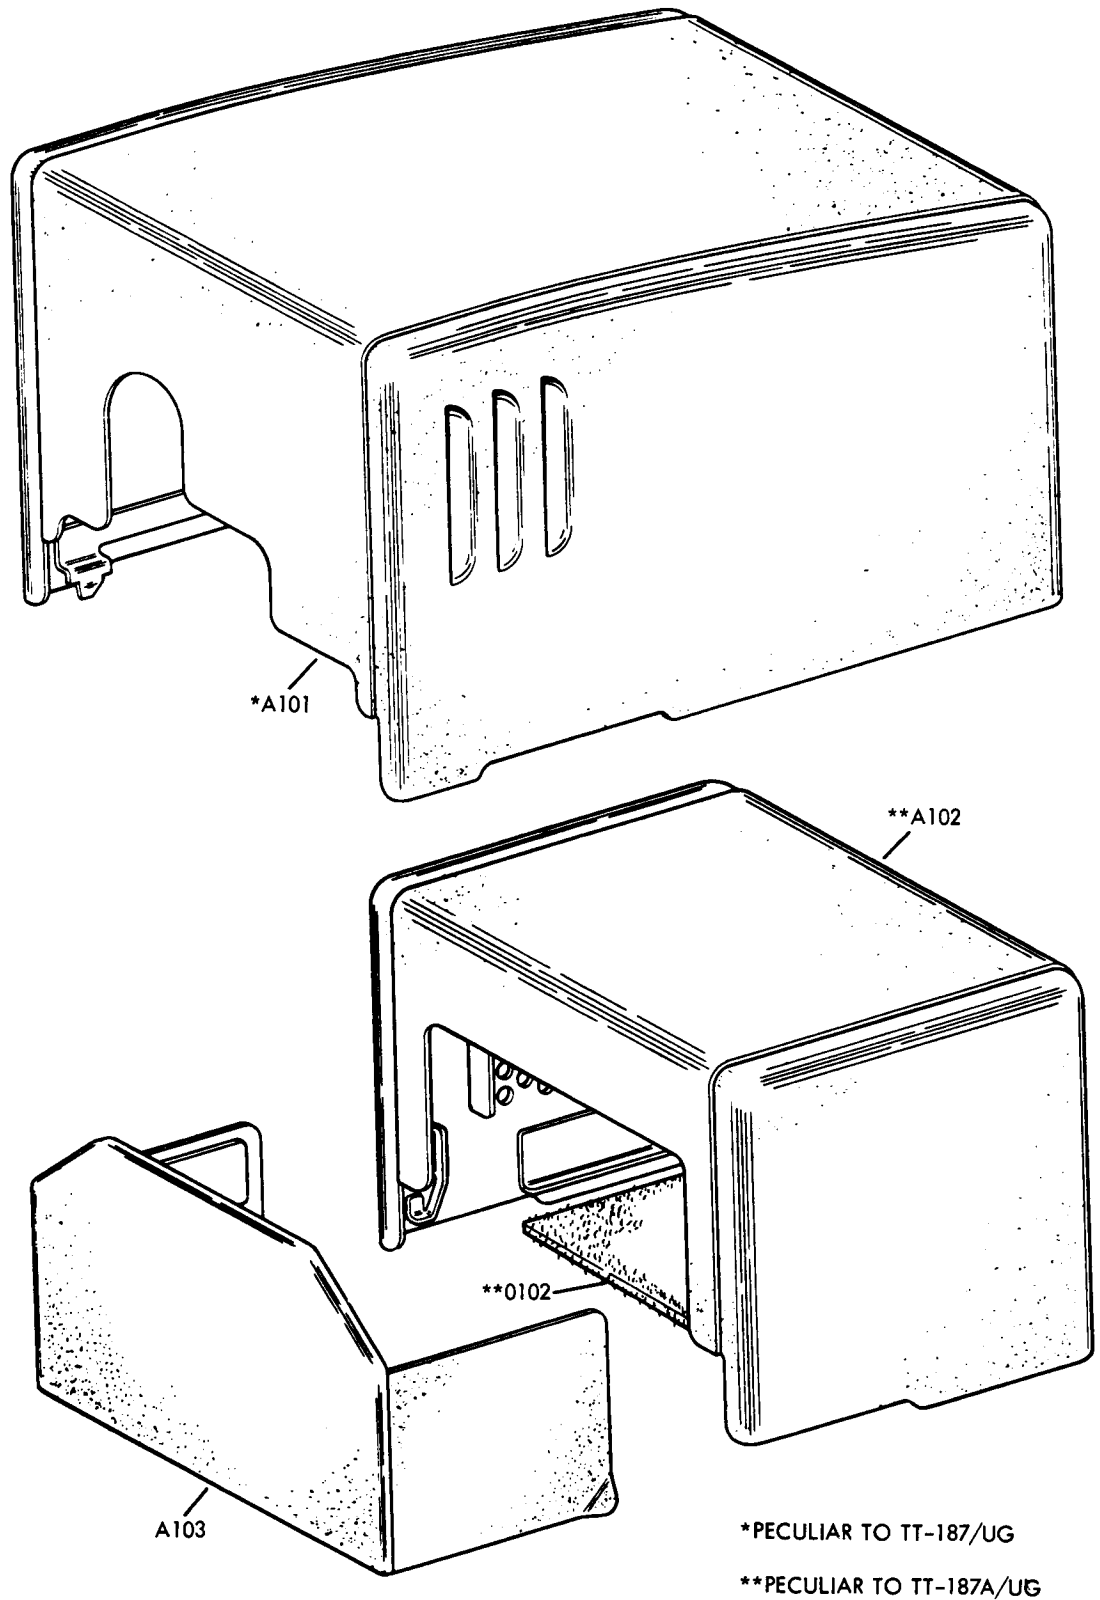

Figure 6-1. Covers
b. Exploded illustrations, figures 6-1 through 6-15, are grouped on a functional basis, insofar as possible. They are keyed to the Maintenance Parts List, Table 7-2, by their reference designations. See table 7-1 for the systematic assignment of reference designation numbers to the major components. The arrangement of the major components in the exploded illustrations is as listed below:
(1) Turn the main power switch to OFF position (down) before removing the cover or front panel.
(2) If there is an external power control, shut off external power before removing base mounted components. This precaution is not necessary, however, for removal of the distributor-transmitter mechanism on the miniaturized set, TT-187A/UG, which is equipped with a quick disconnect plug.
b. COVER (See figure 6-1.) — There are no attaching parts to be removed in removing the cover. The lower corner of the rear edges of the front panel are flanged so they can be spread to release the slots dented on the transmitter mechanism. Pull the front panel forward to remove. Lift the rear cover free of the gear guard and terminal boards. To reassemble, reverse the order used in disassembly.